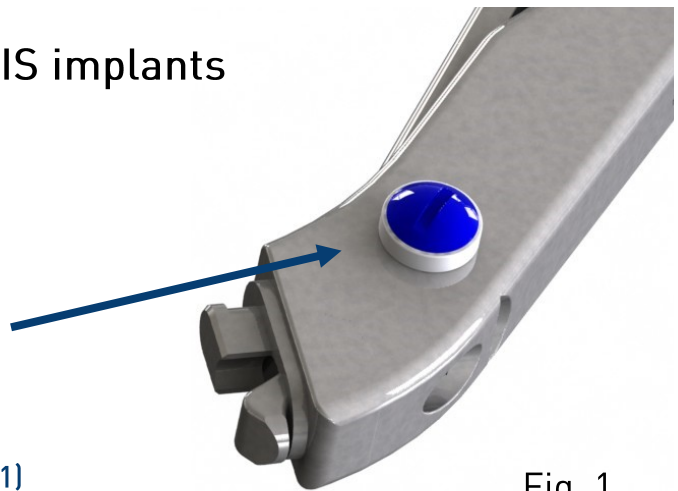

Fig. 1
1) Unscrew the screw of the rasp holder (Fig. 1)